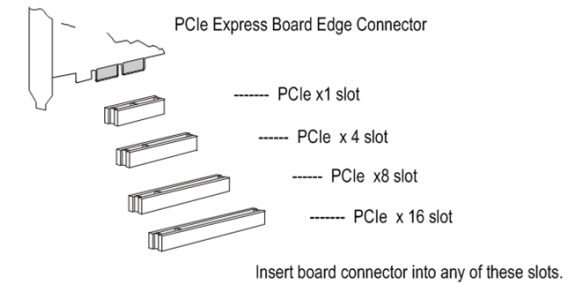

Figure 2. PCI Express Serial Bus Slots
2. Locate a free PCI Express bus slot (see Figure 2).
The PCI Express slots in the computer chassis appear as black slots. The TruFax Analog board has a PCI Express board edge connector. It can be inserted into any one of the PCI Express slots shown in Figure 2.